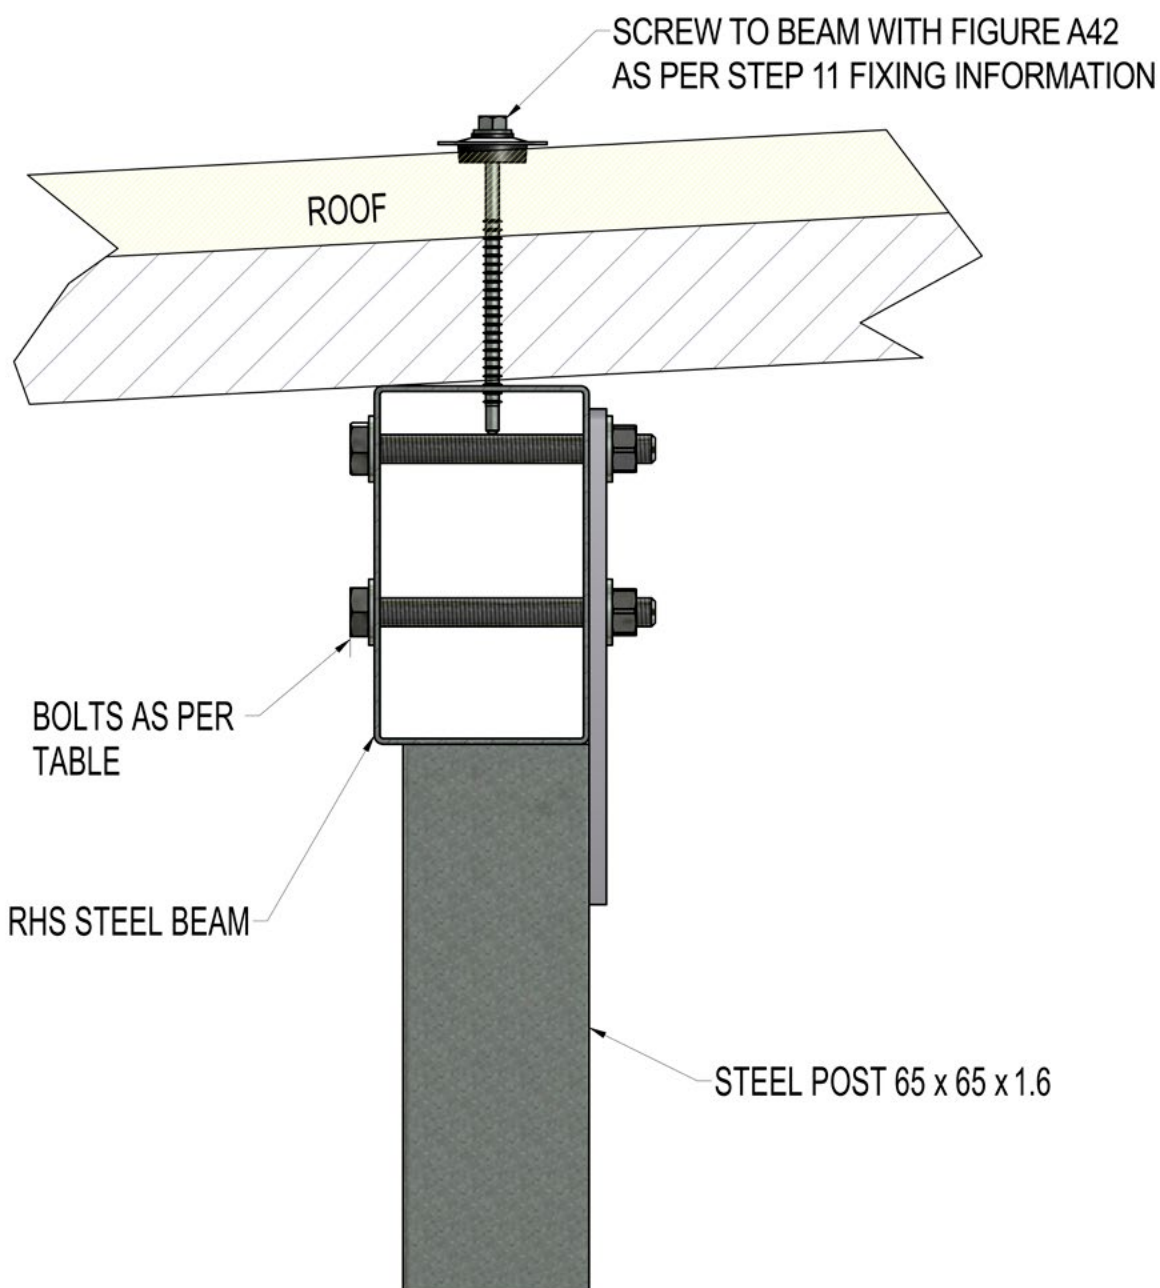

Figure A21
**Steel Beam to Steel Post (see Figure A21)**